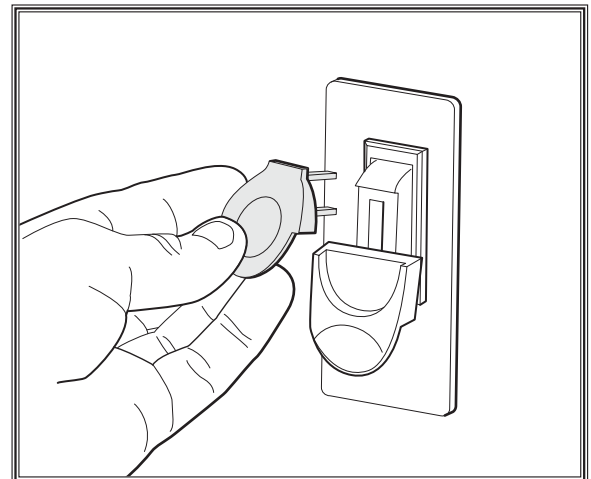

Figure 18. Removing switch key from paddle switch.
5. Remove the switch disabling key (see **Figure 18**).